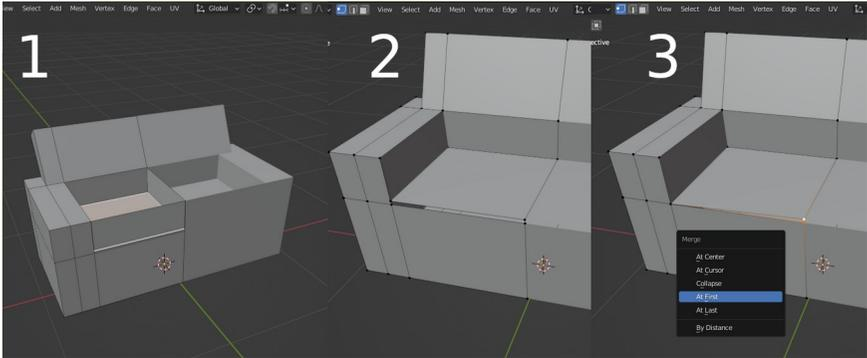

Figure 8-9 Basic extrusion and tidying up topology.
3. You can now make a UV map to match the view of the head in the image you just loaded. To do this you must adjust the camera position in the 3D Viewport until the model looks as close as possible to the image showing in the UV Editor. It is much better to do this using the camera view, positioned using walk navigation, because it allows you to change the Focal Length value in the camera Object Data Properties tab. Mobile phone cameras have very short focal lengths so you probably need to reduce the default 50mm setting. Using the camera view also allows you to return to the exact same position you used to generate the unwrapping if you change the view part way through for some reason. Figure 8-9 stage 1 shows my attempt. When it's as good as you can get it, in Edit mode with select mode set to faces and all the head faces selected, run **UV ▸ Project from View**.
9. Select the two faces on the top of the backrest and extrude them upwards. Extrude the seat of the chair downwards. Now you will see the extra vertex, edges and face so delete these and fill in the gaps using the shortcut F. Use **Mesh ▸ Merge** to get rid of the gap or overlap at the front of the seat. Figure 8-9 shows the sequence and final result. Extruding the back will also insert an unseen, unwanted face and edge, temporarily disable the mirror modifier to see these and delete them. In orthographic view from the side line up the backrest to match the shape in the photo.